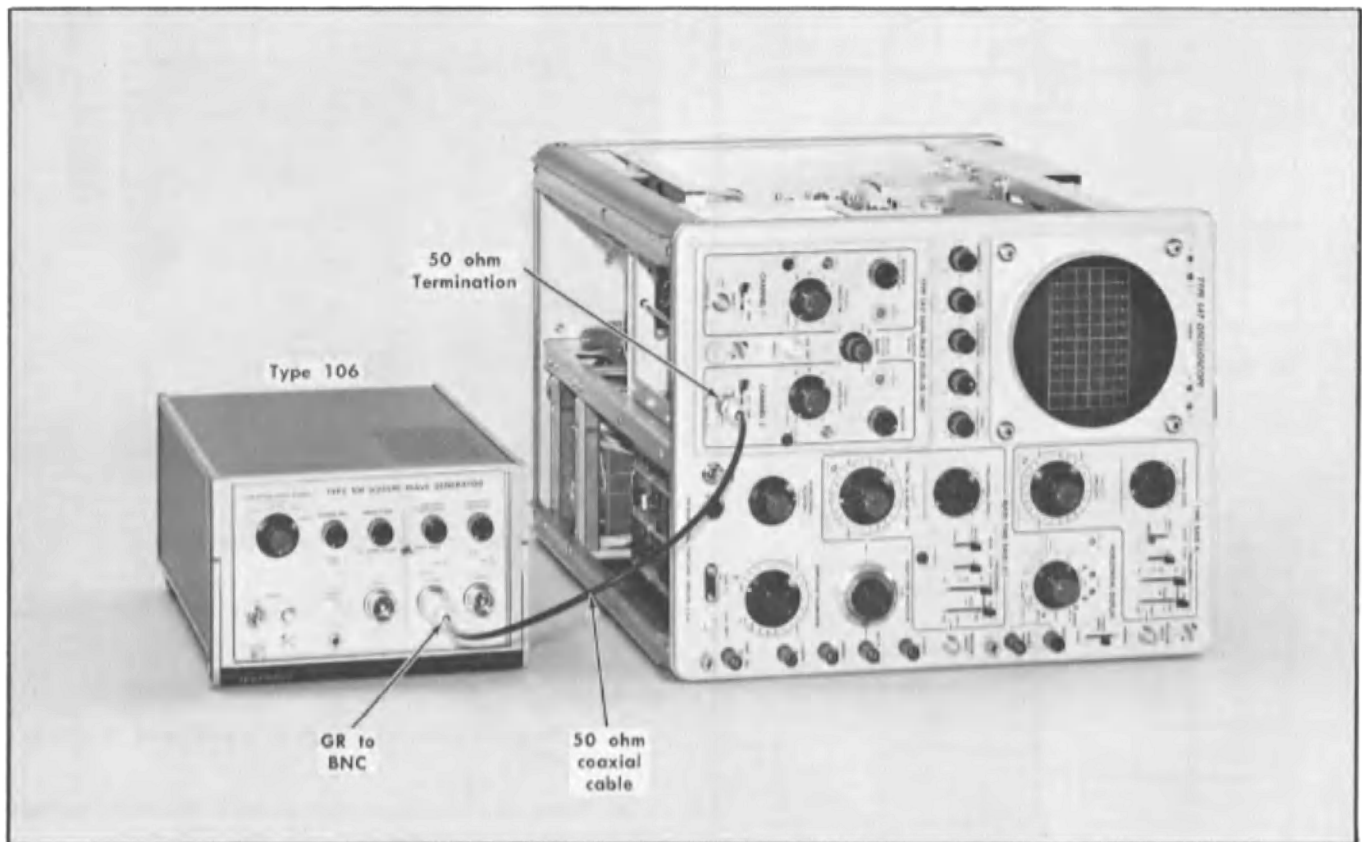

Fig. 7-13. Initial equipment setup for step 20.
- Equipment setup is shown in Fig. 7-13.